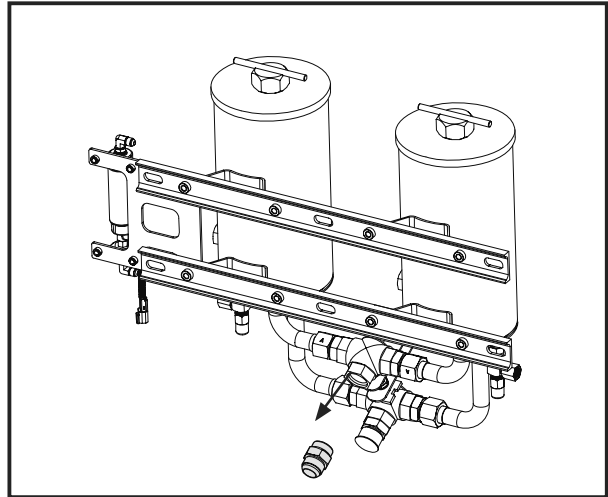

Figure 2 - Removing the straight fitting
2. Remove straight fitting from the outlet manifold. See Figure 2.